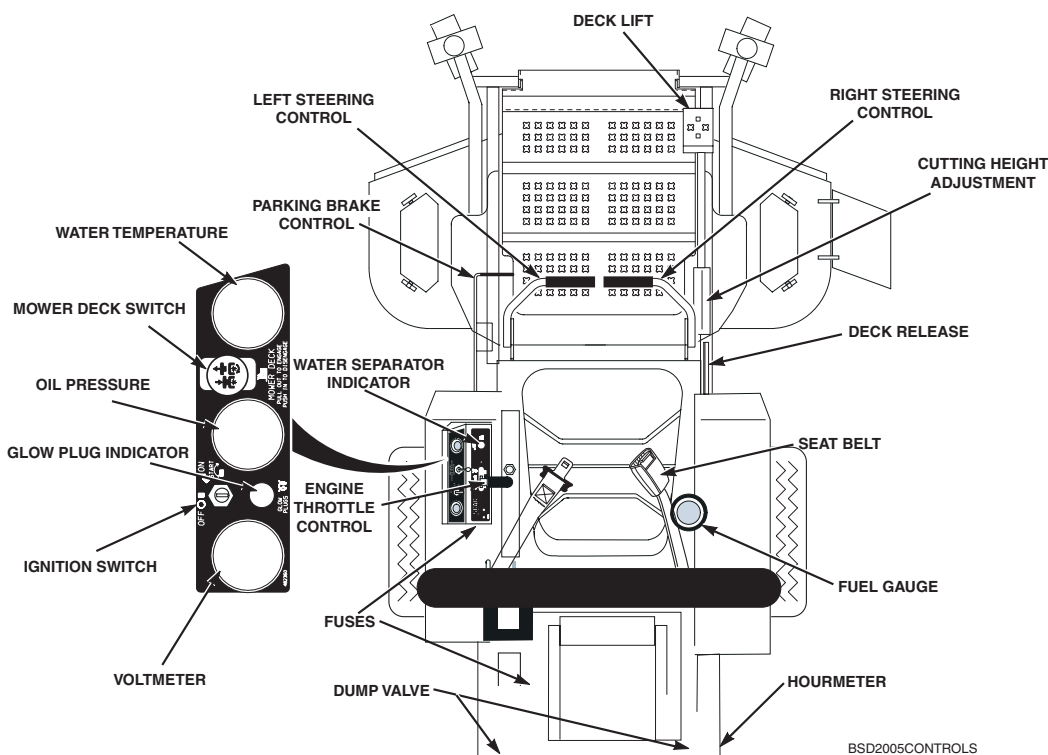

Figure 4-1 Controls and Instruments
1. **Ignition Switch (Figure 4-1).** The ignition switch is used to start the engine and has three positions; OFF, ON, and START.
2. **Water Separator Indicator (Figure 4-1).** Amber indicator turns on when the Water Separator is full and needs to be cleaned out.
3. **Mower Deck Switch (Figure 4-1).** Used to engage and disengage the mower drive system. Pulling up on the switch will engage the deck drive. Pushing down on the switch will disengage the deck drive.
4. **Glow Plug Indicator (Figure 4-1).** Yellow indicator turns off when the glow plugs have been properly heated after the ignition switch is turned on.
5. **Engine Throttle Control (Figure 4-1).** Used to control the engine speed. Pushing the lever forward increases engine speed. Pulling the lever back decreases engine speed. Full back position is the IDLE position. Full forward is the cutting position.
6. **Voltmeter (Figure 4-1).** Indicates the condition of the charging system. When the engine is running, in normal operating conditions, the needle should be in the 12 to 14 volt range.
7. **Oil Pressure (Figure 4-1).** Indicates engine oil pressure. Reference the engine operator's manual for further information.
8. **Hourmeter (Figure 4-1).** Indicates the number of hours the engine has been operated. It operates whenever the engine is running. Has preset maintenance reminders for engine and hydraulic system oil changes. Will start flashing scheduled maintenance 2 hours before preset time and continue flashing until 2 hours after. Automatically resets.
9. **Fuse Holders (Figure 4-1).** There are two 20-amp fuses and one 40-amp fuse that protect the mower's electrical system. To replace fuses, pull fuse out of the socket and install a new fuse.
10. **Left Steering Control (Figure 4-1).** Used to control the mower's left wheel when traveling forward or reverse.
11. **Right Steering Control (Figure 4-1).** Used to control the mower's right wheel when traveling forward or reverse.
12. **Parking Brake Control (Figure 4-1).** Used to engage and disengage the parking brakes. Pull the lever back to engage the parking brakes. Push the lever forward to disengage the parking brakes.
13. **Fuel Tank Gauge (Figure 4-1).** Indicates the amount of fuel in the fuel tank.
15. **Deck Lift Foot Lever (Figure 4-1).** Used to raise and lower the cutter deck.
16. **Cutting Height Adjustment (Figure 4-1).** Used to set the cutter deck at the desired cutting height.
17. **Deck Release Lever (Figure 4-1).** Used to lock the cutter deck in the transport position. Push the foot pedal forward and lift up on the release lever to release the cutter deck for normal mowing.
18. **Temperature Gauge (Figure 4-1).** Indicates the operating temperature of the engine.
19. **Seat Belt (Figure 4-1).** Used to secure the operator. Seat belt must be worn at all times during operation.